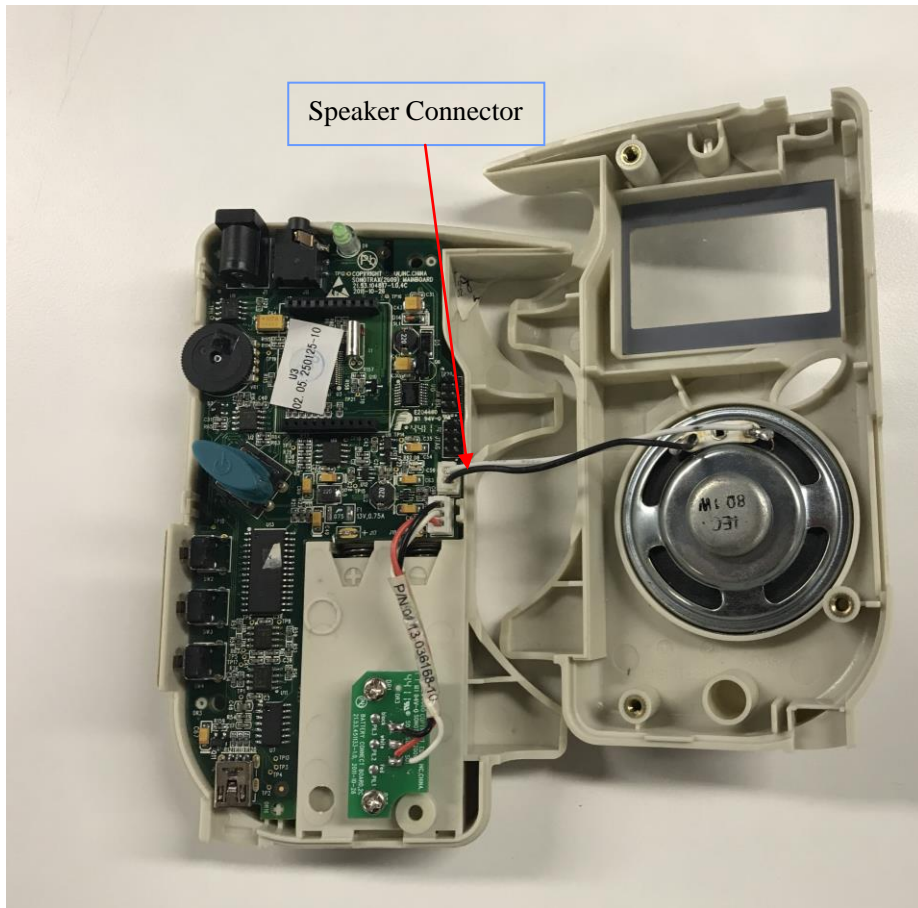

Figure 4-12 Heat-Melting Adhesive on the Speaker and the Speaker Connector
- 6) Unplug the speaker connector from the socket on the PCB; Apply a few drops of alcohol to the heat-melting adhesive that sticks the speaker to the front panel (figure 4-12), take out the speaker after the glue is melted.